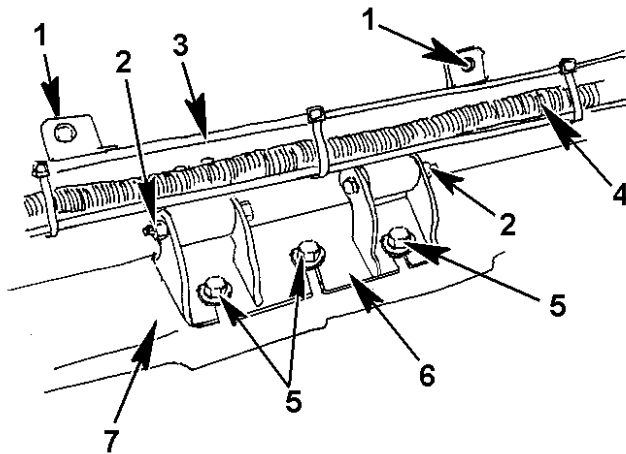

Figure 32 Hood Hinge Mounting Bolts
21. With the hood still in the open position, locate the hinge plate hex head mounting bolts (Figure 32, Item 5),
23. Loosen and but do not remove the hood hinge plate mounting bolts (Figure 32, Item 5).